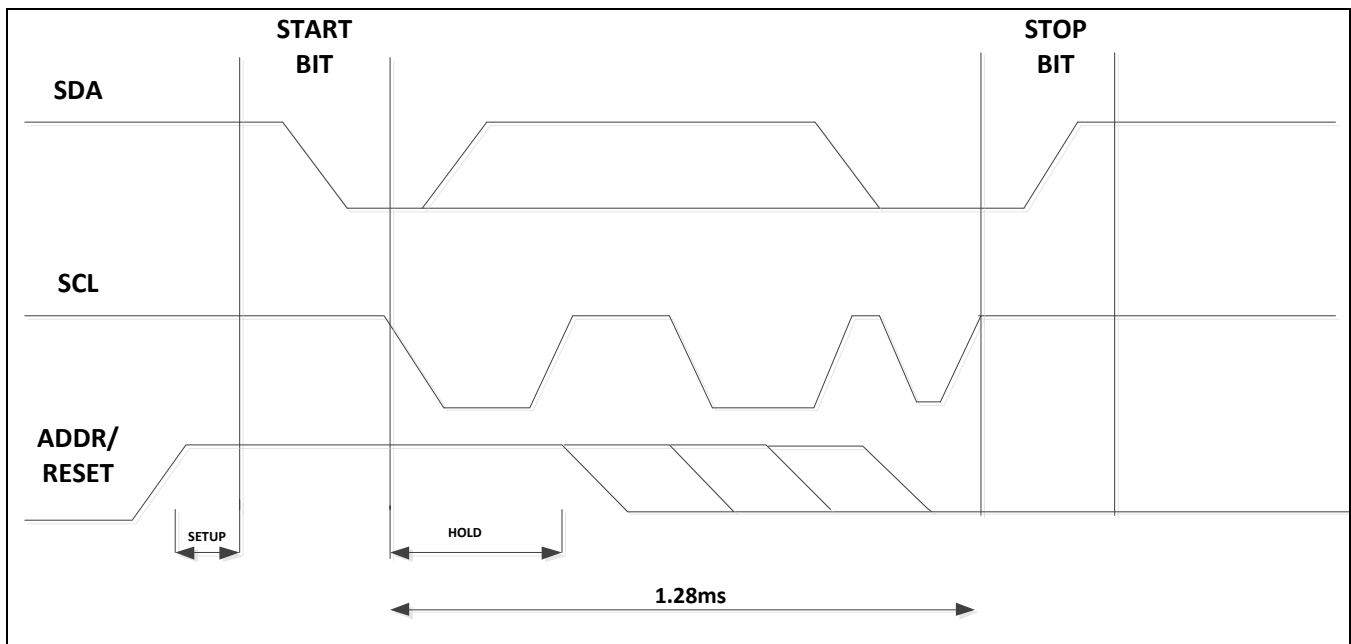

Figure 2. Reset Assert and Deassert Timing Sequence
After the initial powerup, the ADDR/RESET multiplexed pin acts as a digital input pin for RESET. The RESET can be asserted by using both the RESET pin and a request in the SMBus module by using SCL and SDA (START and STOP detection). As shown in Figure 2, the following sequence asserts RESET in MAX34427:
1. Pulling RESET pin from low to high before a START condition of SMBus, triggers a RESET sequence. The “setup” and “hold” time to hold Reset “high” is around  $40\mu\text{s}$  as shown in Figure 2. It ensures the correct sampling of Reset pin’s “high” state. Before forcing the “high” state, make sure to leave RESET pin free by defaulting the controller I/O drive on the pin to “high impedance”.